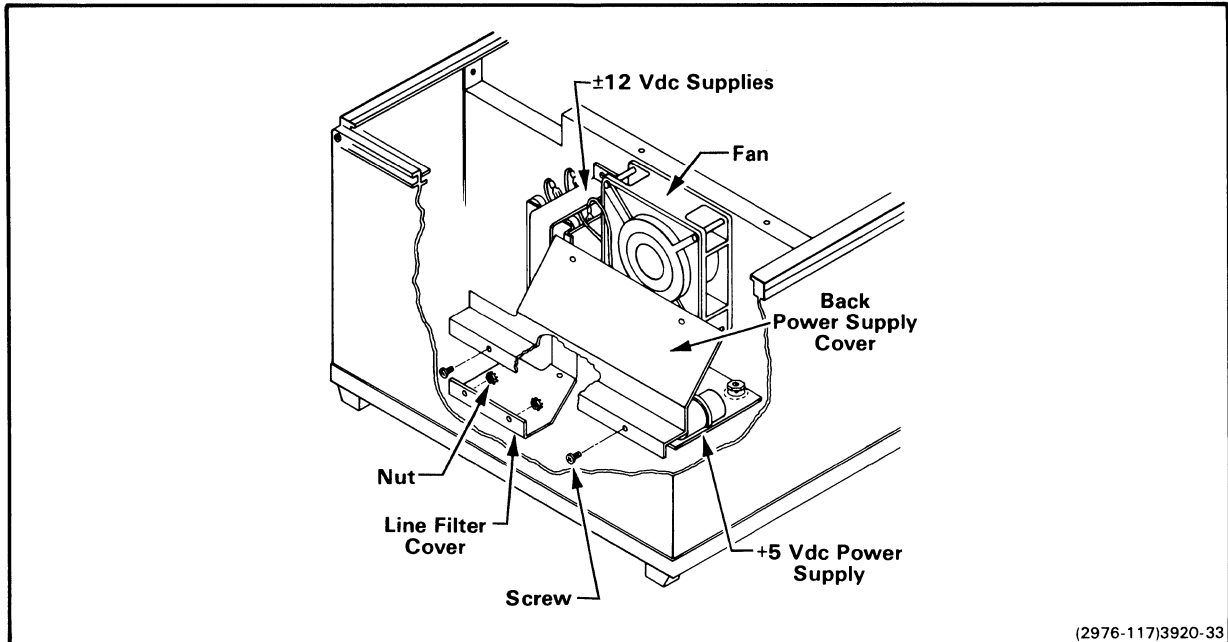

Fig. 14-8. 8540 Power Supplies.
5. Locate and remove the back power supply cover shown in Fig. 14-8. This cover is held in place by two screws through the 8540 rear panel.
6. Locate and remove the line filter cover shown in Fig. 14-8. This cover is held in place by two nuts and one screw. As you remove the cover, avoid damaging the wiring directly above it.